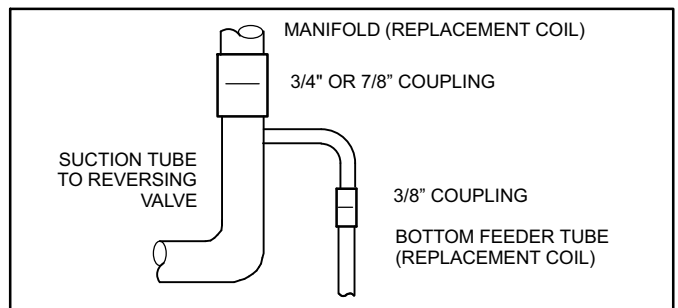

Figure 3. Replacement Line & Coupling
12. Align the manifold and feeder tube on the replacement coil with those in the unit. Install the provided couplings between the two tubes. Braze the couplings into place. See figure 3.